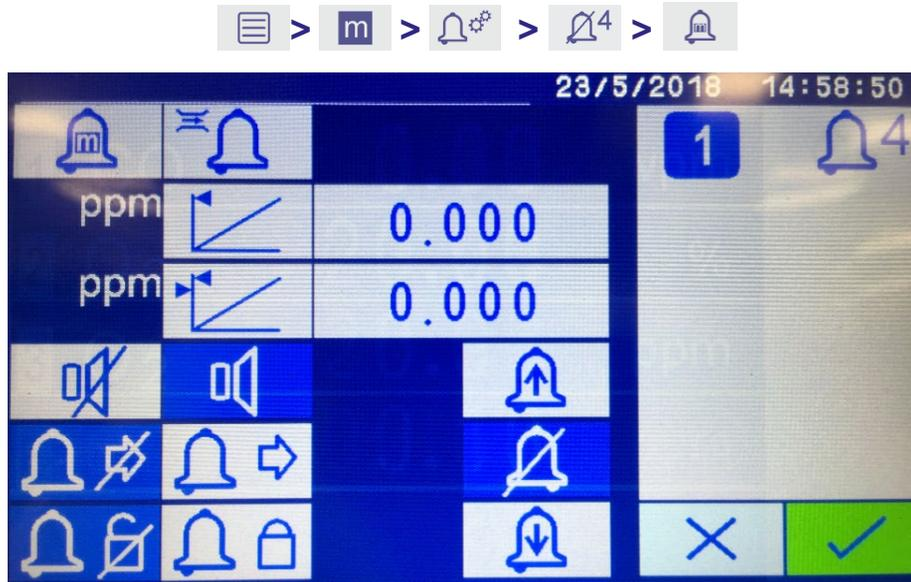
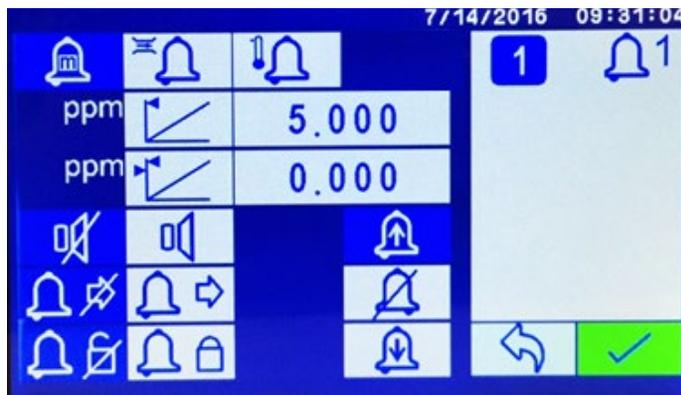

Figure 7-8: Measurement Alarm setup screen for Transducer #1 and Alarm #4
Figure 7-9: Measurement Alarm setup screen for Transducer #1 and Alarm #1
- The Alarm setup screen for the selected alarm is displayed. Figure 7-8 shows Alarm #4 configured for a Measurement Alarm on Transducer #1.
In Figure 7-8 the following alarms have been set or deactivated: Audible alarm is on , Do Not Follow  is on, Do Not Latch  is on and no Measurement value alarm (Hi or Lo)  has been selected.
In Figure 7-9 the following alarms have been set or deactivated: Audible alarm is off , Do Not Follow  is on, Do Not Latch  is on and the Hi Measurement value alarm  has been selected.
Note: Figure 7-8 and Figure 7-9 show examples of the different options available for specific transducers or system.